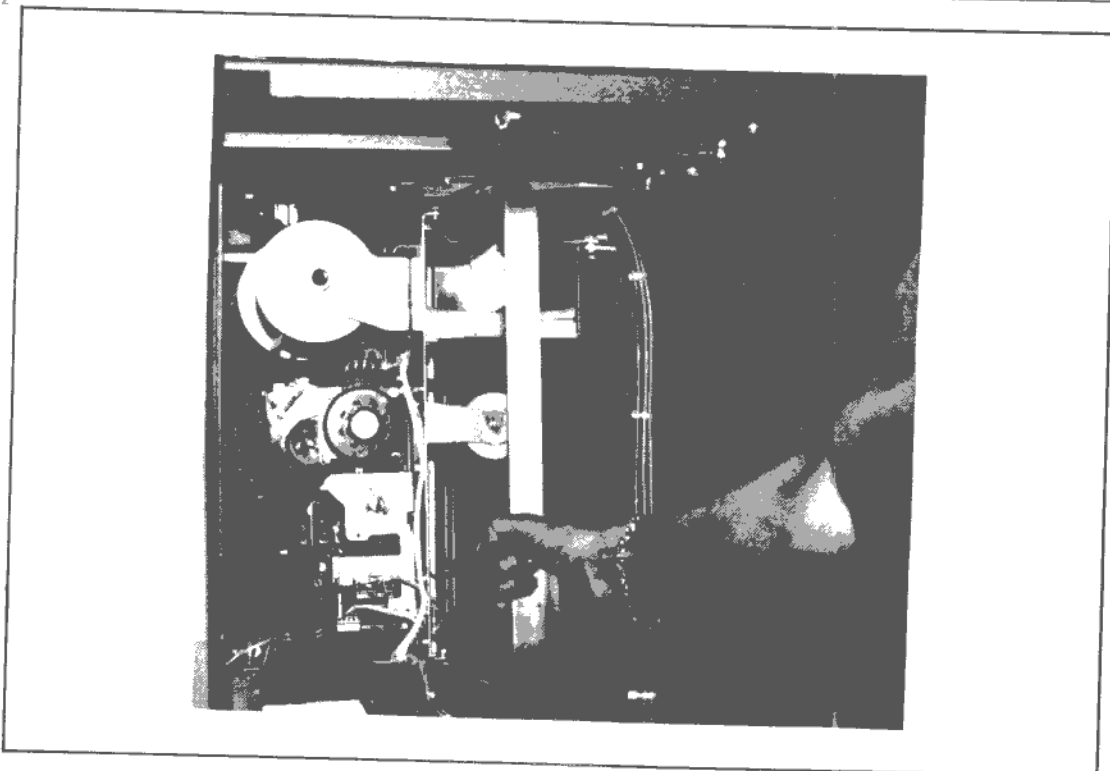

Figure 3-26. Accessing the Transaction Printer with Audit Trail
2. Pull the handle attached to the printer mechanism and allow the printer to slide along its predefined track until it reaches a halt, with the back of the printer mechanism facing the open end of the compartment. The transaction printer is now in the servicing position (refer to figure 3-26).